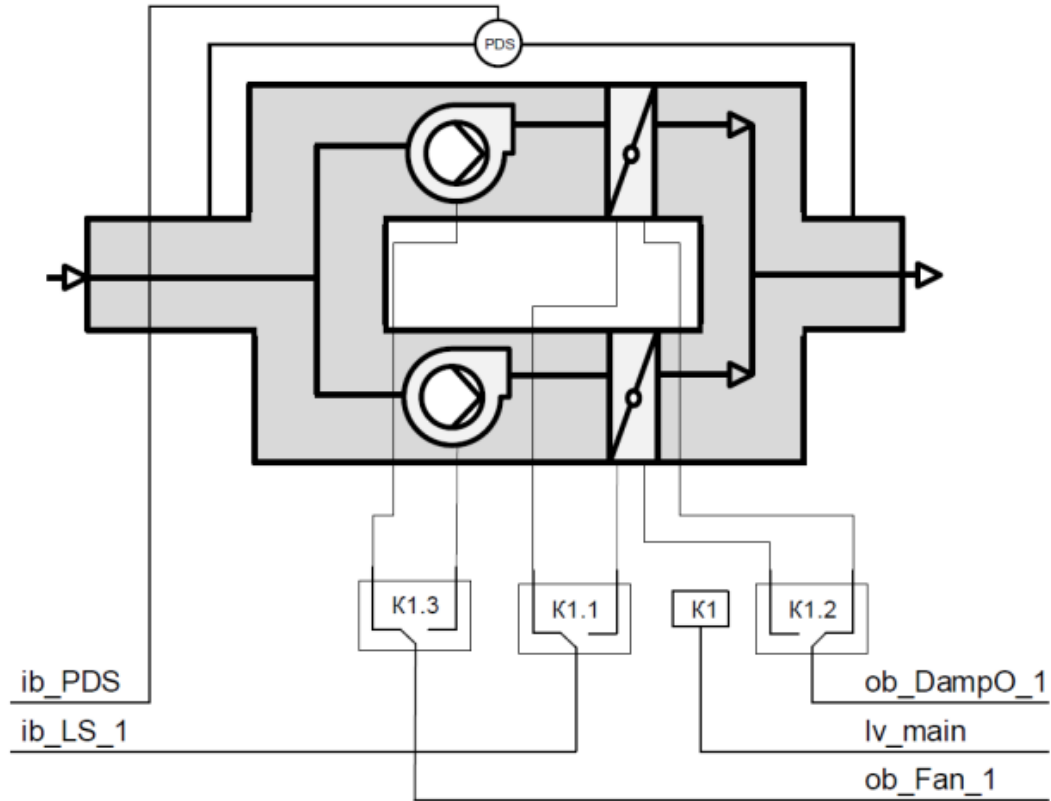

Figure 4 – Connection diagram for mode 2.
- 3- mode_Damp=2. Two air dampers are used (one for each fan), each with one limit switch. The signals from the limit switches are combined into one (ib_LS_1) via a selector. The commands for damper opening are combined into one signal (ob_DampO_1). The commands for fan startup are combined into one signal (ob_Fan_1). The connection diagram is shown in Figure 4.